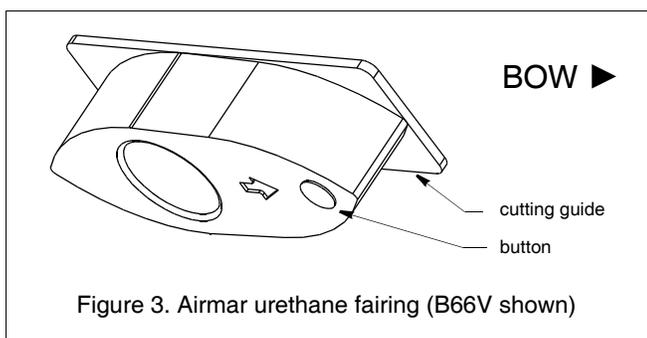

Figure 3. Airmar urethane fairing (B66V shown)
Made of a high impact urethane with an integrated cutting guide, an Airmar fairing is safer and easier to cut with a band saw and shape with hand tools than custom fairings (see Figure 3). It can be shaped to accommodate a deadrise angle of up to 25°. (For fairing part numbers, see "Replacement Parts" on page 6.)
4. Slide the fairing (if used) onto the stem and mate the button with the recess in the multisensor (see Figures 3 and 7).
2. Push the stem of the multisensor (with the fairing in place) into the mounting hole using a twisting motion to squeeze out excess sealant. If an Airmar fairing is used, *be sure* the button on the fairing is mated with the recess in the multisensor, the arrow on the fairing is pointing forward, and the assembly is aligned parallel to the centerline of the boat (see Figures 3 and 7).